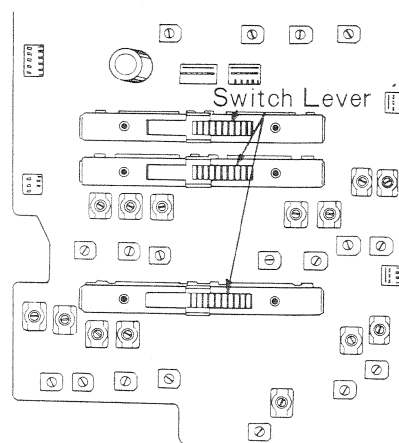

Fig. 23
2. Set the switch lever at the position, as shown in fig. 23.